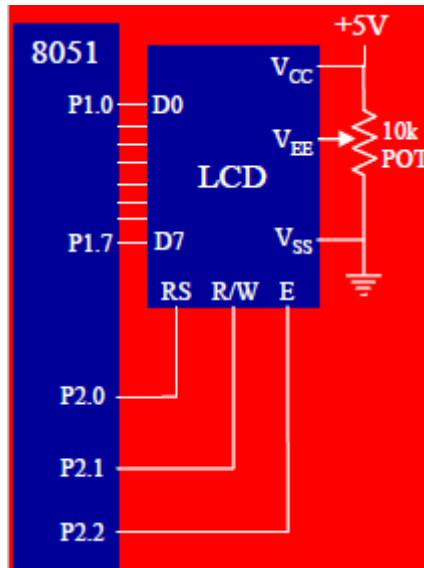

Figure 5.2 LCD Interfacing With 8051
- This is done by connecting one end of a POT to the Vcc (5V), other end to the Ground and connecting the center terminal (wiper) of of the POT to the VEE pin. (Refer Figure 5.2)
**Enable (E):**